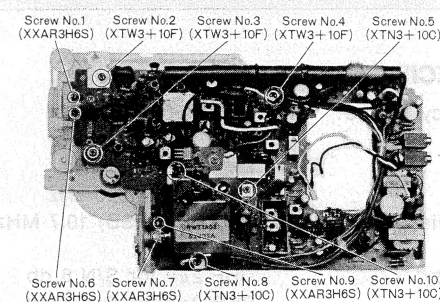

Fig. 4
6. Remove the six (6) screws (nos. 2, 3, 4, 5, 8 & 10) for dial drive assembly, as shown in fig. 4.
7. Loosen the two (2) screws (nos. 7 & 9) for UHF tuner, as shown in fig. 4.
2. Loosen the two (2) screws (nos. 1 & 6) for the gear, as shown in fig. 4.
12. Tighten the two (2) screws (nos. 1 & 6) for the gear, as shown in fig. 4.